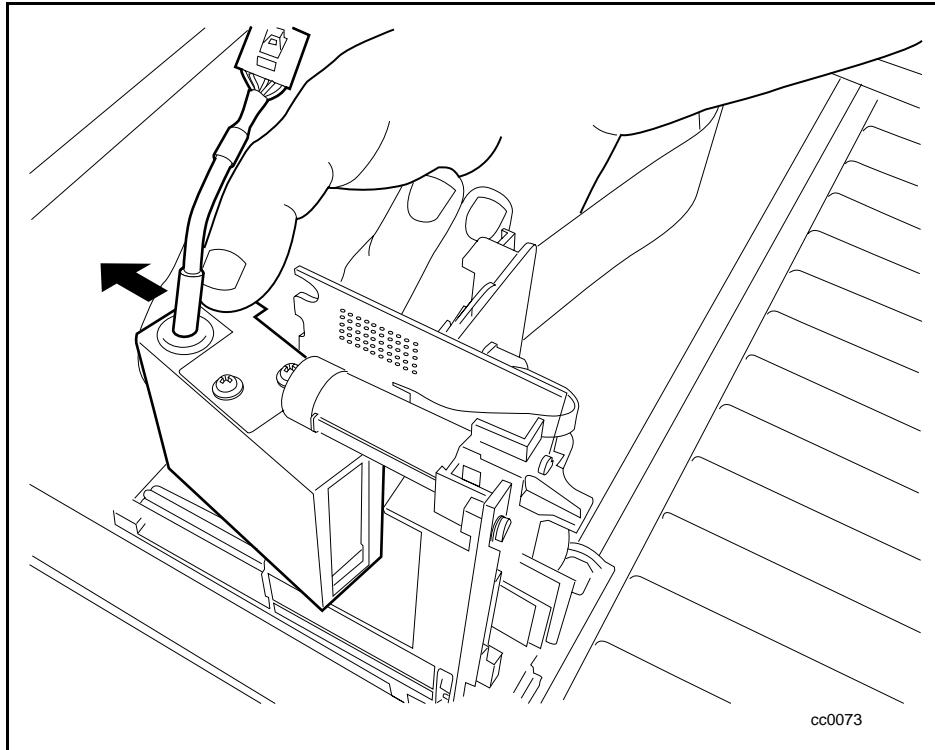

Figure 5-3. Removing the bar code reader
4. Slide the bar code reader out and away from the shuttle mechanism (see Figure 5-3).
2. Tighten the two screws that secure it to the assembly (see Figure 5-3).